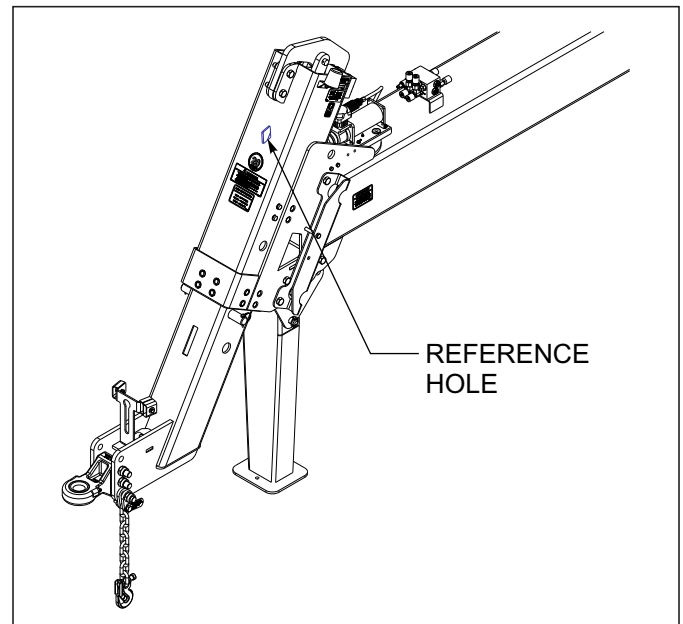

Figure 4-4: Leveling the Hitch
3. Use the diamond shaped hole at the front of the hitch as a guide to level the hitch for planting operations (*See Figure 4-4.*) The wear pad (inside the hitch tube) will be visible from the tractor seat as it slides by the reference hole. When the reference line on the wear pad is centered in the diamond shaped hole, the hitch should be level. Do not insert any objects in the reference holes as the wear pad slides over these holes and could damage the hitch.